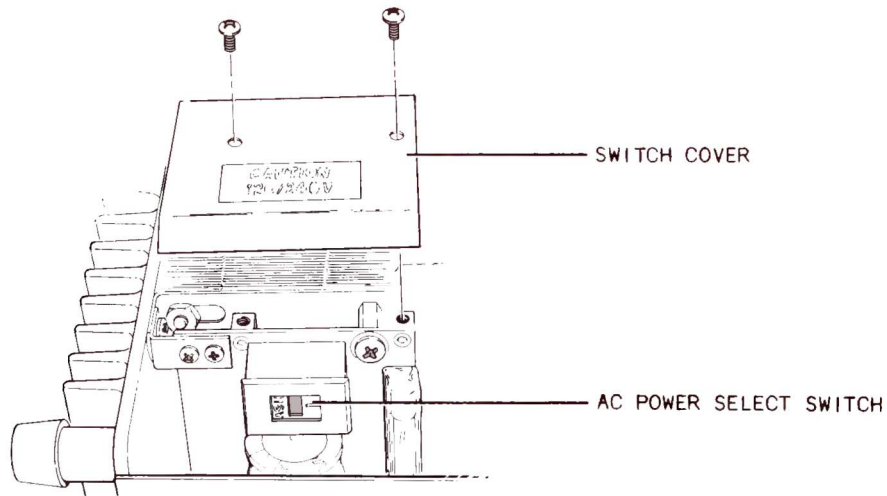

Figure 2-3 AC Power Select Switch Location
THE FM/AM-1200 IS SHIPPED FROM FACTORY WITH THE AC POWER SELECT SWITCH IN THE 115 VAC POSITION. DO NOT APPLY EXTERNAL POWER ABOVE 115 VAC UNLESS SWITCH IS POSITIONED TO 230 V (REF. FIG. 2-3) (REF. APPENDIX A, SPECIFICATION A-14).
The FM/AM-1200 Communications Service Monitor is shipped with the AC Power Select Switch (Ref. Figure 2-3) positioned to "115 VAC". If it is necessary to operate FM/AM-1200 using 220 VAC, the AC Power Select Switch must be positioned to "230 VAC" prior to the application of electrical power. The procedure to reposition this switch is as follows:
3. Remove two screws from Switch Cover Plate (with CAUTION placard) to expose AC Power Select Switch (Ref. Figure 2-3).
4. Verify position of switch and, if necessary, slide switch indicator until desired power rating is visible (Ref. Figure 2-3).
5. Re-install Cover Plate (Ref. Figure 2-3).